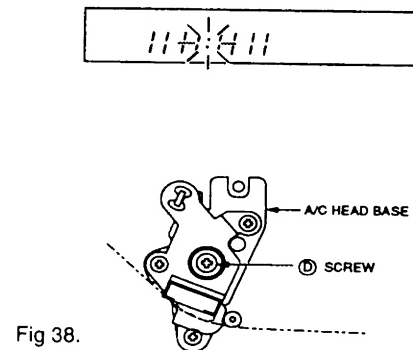

Fig 38.
- 3: Press one of the TRACKING buttons on the remote control unit until the flashing point reaches the centre position of the tracking range (colon) on the FL display as shown in Fig 38.